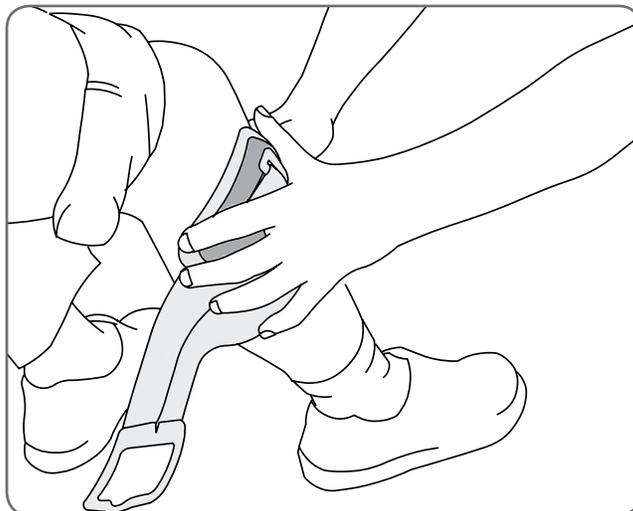

Figure 10-6: Capturing the electrode bases.
7. Keeping the L300 FS Cuff open, lower the bottom of the L300 FS Cuff, allowing only the front of the FS Cuff to contact the anterior surface of the tibia. Then wrap the ends of the L300 FS Cuff around the leg to “capture” the electrode bases. See Figure 10-6.